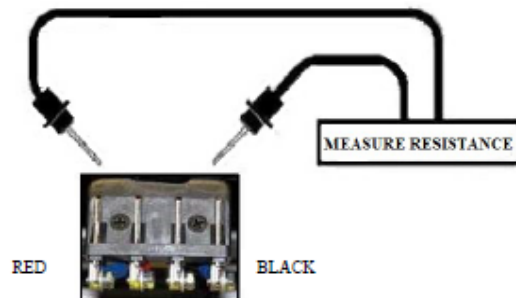

Figure 18. Connector 9
4. Measure resistance across the two outside pins on connector (9) that have the thick black wire and the thick red wire. (Internal resistance of the motor). **See figure 18.**